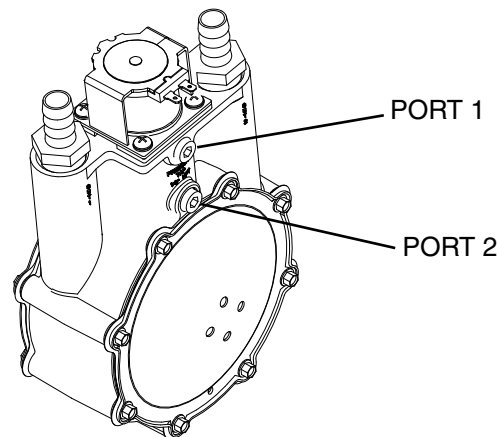

Figure 65. Gas Pressure Test point
1. See Figure 65 for the gas pressure test point on the fuel regulator. The fuel pressure can be checked at Port 1.
- Install a manometer to Port 2 on the fuel regulator. See Figure 65.